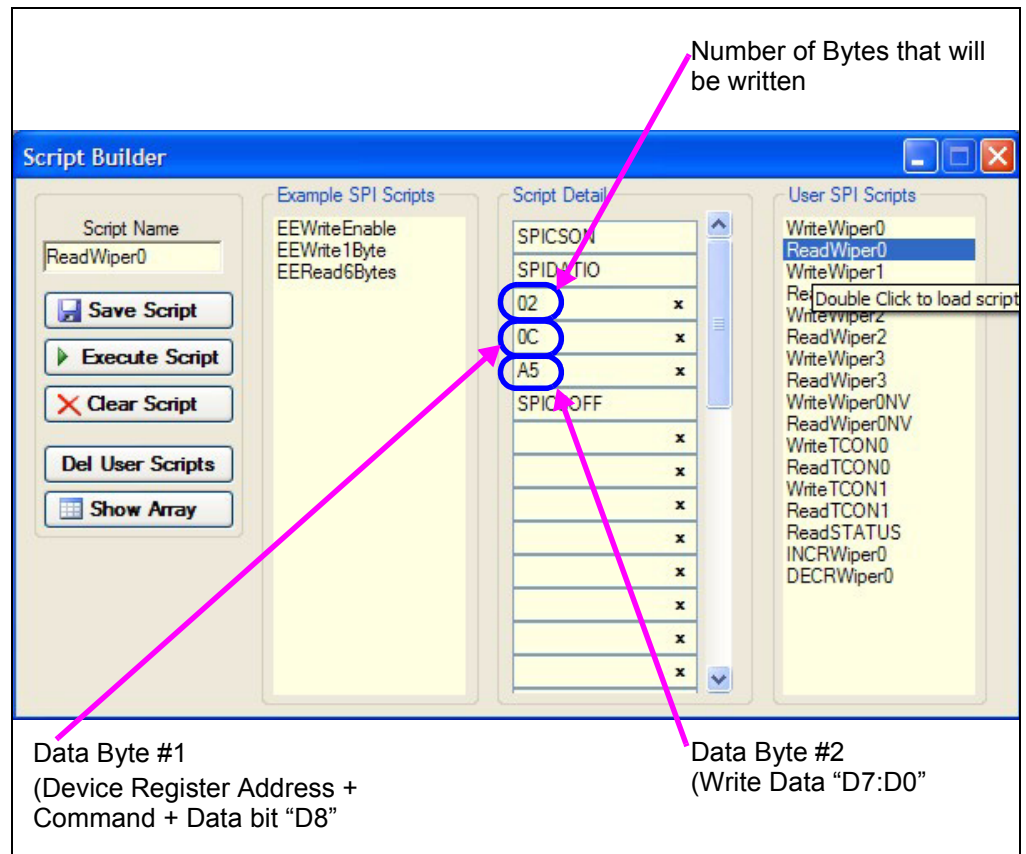

FIGURE 2-11: Example Read Script.
Double clicking on the ReadWiper0 User SPI Script will load the script details. Figure 2-11 shows what the values mean in the Script Details. These values are hex numbers.
11. Select the “ReadWiper0” script in the User SPI Scripts column. It should look like Figure 2-11.
15. Select the “ReadWiper0” script in the User SPI Scripts column. It should look like Figure 2-11.